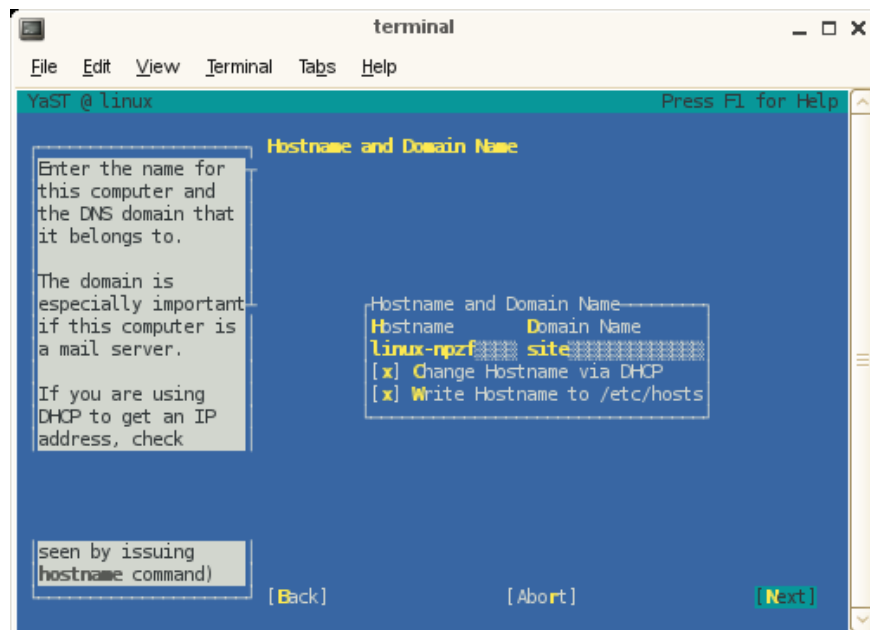

Figure 2-3 Hostname and Name Server Configuration Screen
7. From the **Hostname and Name Server Configuration** screen, as shown in Figure 2-3 on page 36, enter the hostname and domain name of your system in the appropriate fields. Make sure that **Change Hostname via DHCP** is unselected (no x should appear in the box). Click on the **Next** button to continue.